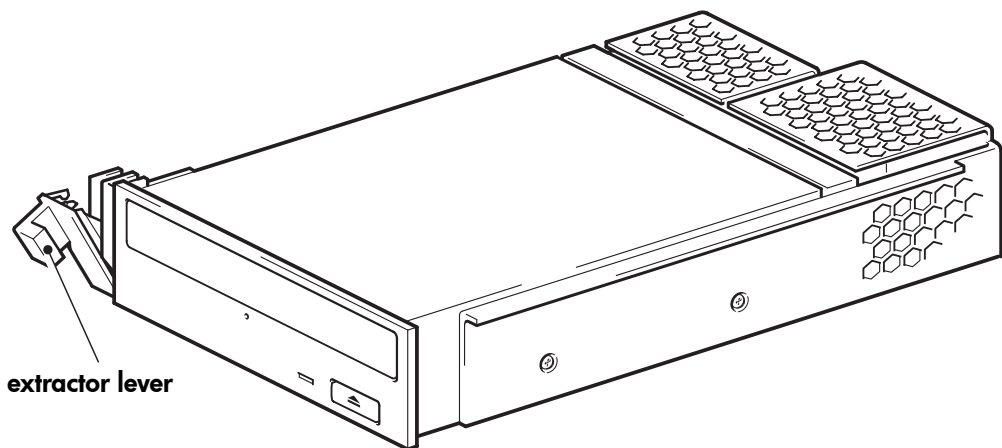

Figure 1a: extractor lever in the out position
- 1 Before installing a DVD+RW drive, make sure that the extractor lever is in the fully open position (pulled out) as shown on figure 1a.